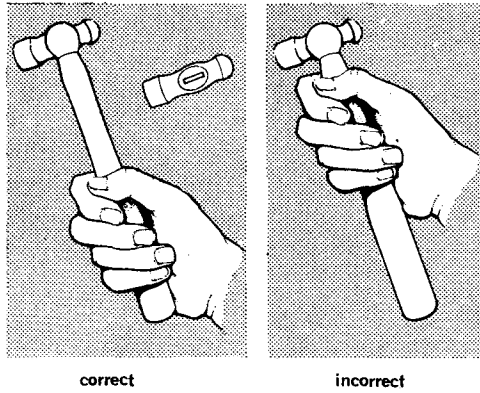

Fig. 16 Use of the hammer
15. A hammer consists of a high carbon steel head, hardened on the working faces and attached to a wooden shaft. The head must be wedged securely to the shaft with the wedge lying parallel to the axis of the head. A hammer should be held close to the end of the shaft to obtain maximum control of a blow (Fig. 16).